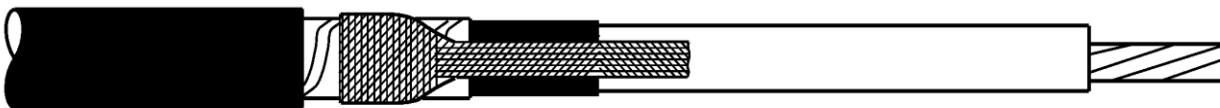

Figure 29
3. Extend the braid to the other side of the splice, parallel with the cable. Cut to an appropriate length, leaving a sufficient tail for connection to the tinned solder block braid. Refer to Figure 29.